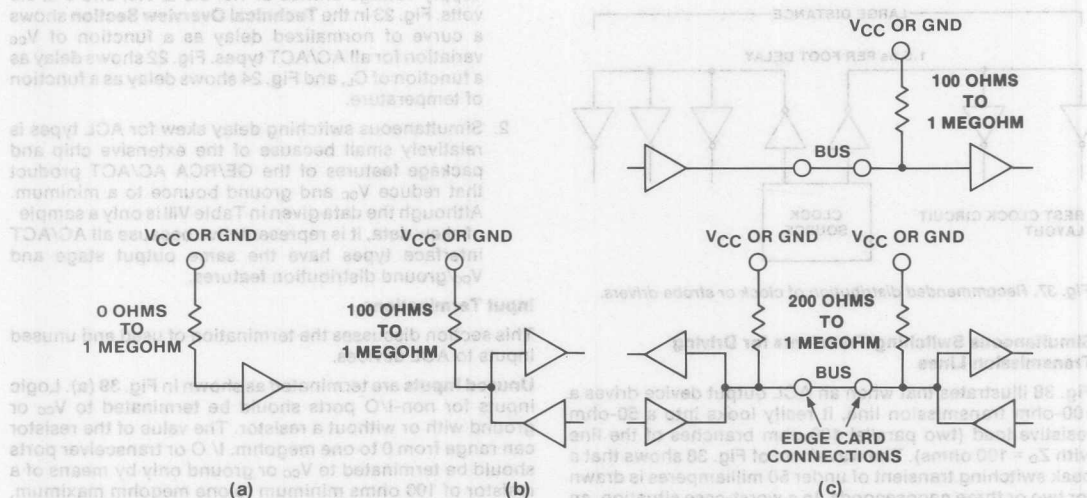

Fig. 39. Input terminations for (a) unused logic inputs, (b) unused I/O ports inputs, and (c) used inputs coming off an edge card connector.
**Unused Inputs** are terminated as shown in Fig. 39 (a). Logic inputs for non-I/O ports should be terminated to  $V_{CC}$  or ground with or without a resistor. The value of the resistor can range from 0 to one megohm. I/O or transceiver ports should be terminated to  $V_{CC}$  or ground only by means of a resistor of 100 ohms minimum to one megohm maximum, as shown in Fig. 39 (b). The consideration here is that if the port is in the driver mode, short to  $V_{CC}$  or ground must be avoided.
**Used Inputs** are terminated as shown in Fig. 39 (c). There are application situations in which an input may become a floating one when system power is on. An example is for CMOS inputs coming off an edge card connector. If the card driving a particular bus line is pulled, then the CMOS input at the receiving PC card input becomes floating. The rule here is to terminate such inputs to  $V_{CC}$  or ground with a resistor 100 ohms to one megohm in value. If the interconnection is a terminated bus, however, such as a terminated VME backplane, individual input terminations such as those shown in Fig. 39 (c) are not required.